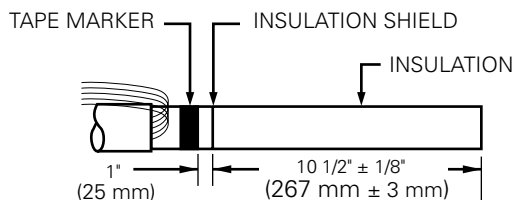

Figure 4. Line illustration of cable stripback
- Remove insulation shield 10 1/2" (267 mm) from end of cable. (Refer to Figure 4.)
- Measure 1" (25 mm) from end of insulation shield. (Refer to Figure 4.)